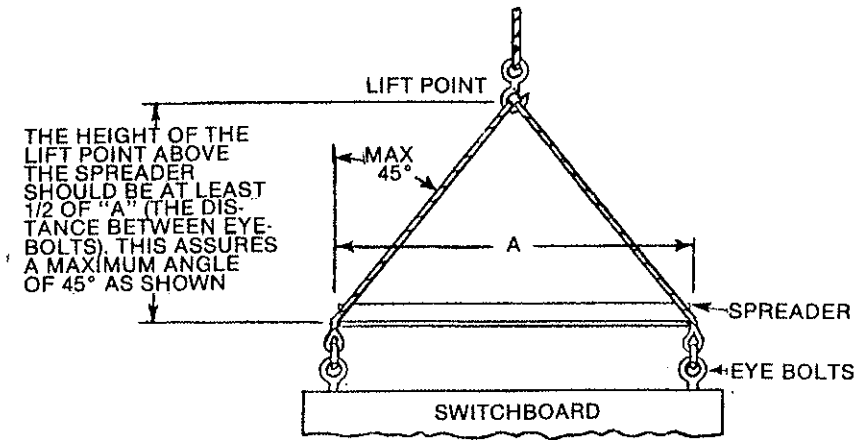

Figure 2-2
10. When it is necessary to move the switchboard between elevations without a suitable platform elevator, overhead hoisting may be required. Lifting plates and eye bolts (Fig. 2-1), or channels, angles, or bars with lift holes (Fig. 2-2) may be provided as a permanent or removable part of the switchboard. If they are not, cable, chain or band slings (fig. 2-3) may be rigged around the switchboard.